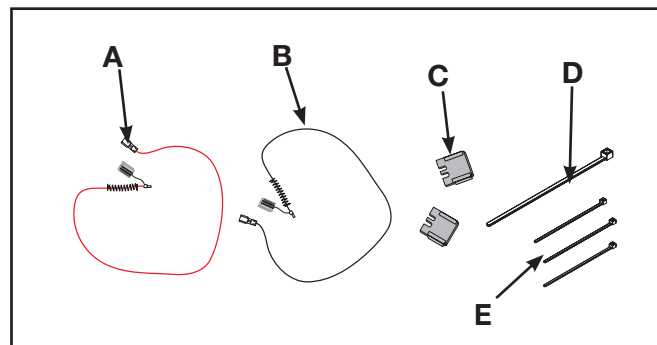

Figure 12
2. Verify the kit contents shown in Figure 12.
- A. Brush Assembly, 110 VDC, Red (1)
- B. Brush Assembly, 110 VDC, Black (1)
- C. Brush Retainer, Molded (2)
- D. Wire tie, 18", EH-12260 (1)
- E. Wire tie, 9", EH-00986 (3)